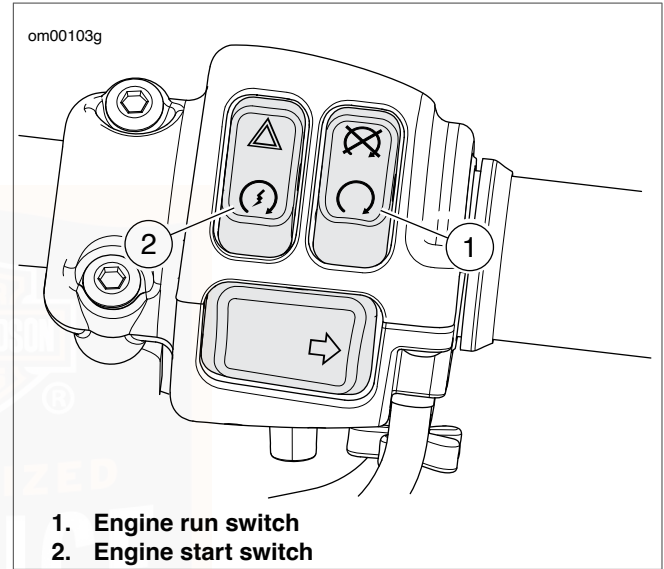

Figure 35. Right Handlebar Controls
2. See Figure 35. Switch the OFF/RUN switch to the RUN (1) position.